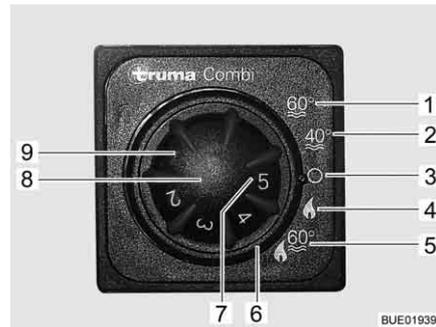

Fig. 54 Operating unit for heater/boiler
- Set the operating mode using the rotary switch (Fig. 54,6).
The heater selects the necessary burner setting according to the required room temperature. When the required room temperature is reached, the burner is switched off. In "Heater and production of hot water" operating mode (Fig. 54,5) water in the boiler is also heated. In the operating mode "Only heater" (Fig. 54,4) the heater can be operated with an empty boiler.
- Turn the temperature control knob (Fig. 54,8) on the operating unit to the desired heating level.
- Set rotary switch (Fig. 54,6) to winter operation "Only heater" (Fig. 54,4) or to winter operation "Heater and production of hot water" (Fig. 54,5).
The green indicator lamp (Fig. 54,7) is on.
- Set the rotary switch (Fig. 54,6) to "O" (Fig. 54,3).